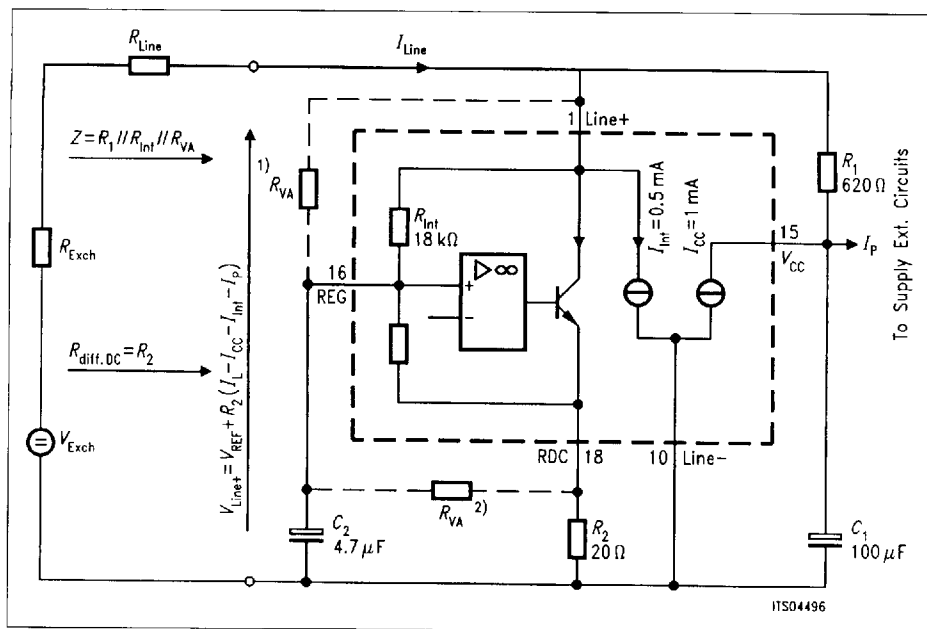

Figure 2
The DC current flowing into the circuit is determined by the exchange supply voltage V_{Exch} , the feeding bridge resistance R_{Exch} , the subscriber line DC resistance R_{Line} and the DC voltage at the telephone set (see figure 2).
With $I_{RDC} \gg I_{CC} + 0.5$ mA + I_P , the static behavior of the IC is similar to a 3.6 V voltage regulator diode with an internal resistance R_2 . In the audio frequency range the dynamic impedance equals R_1 , since R_{int} or $R_{VA} \gg R_1$. R_{VA} is an external resistor, which makes it possible to adjust the internal reference voltage. If R_{VA} is connected between pins Line + (1) and REG (16), the reference voltage V_{REF} is reduced. If R_{VA} is connected between pins REG (16) and RDC (18), the reference voltage V_{REF} is increased. The corresponding equivalent circuit diagram is shown in figure 2.